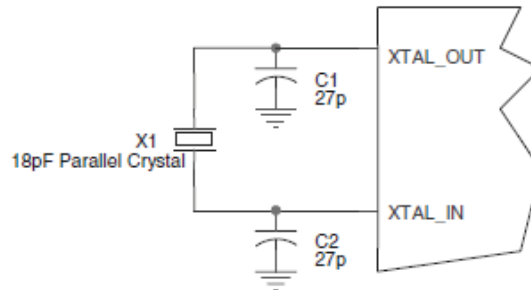

FIGURE 2. CRYSTAL INPUT INTERFACE
*Figure 2* below were determined using a 25MHz parallel resonant crystal and were chosen to minimize the ppm error.